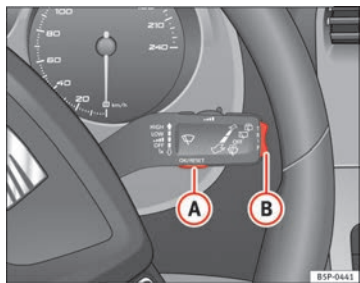
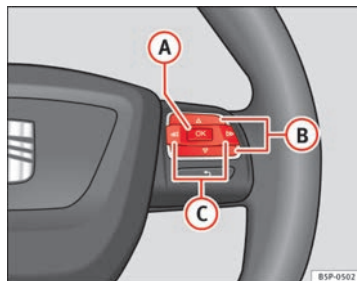

Fig. 45 Windscreen wiper lever: button A to confirm the menu selection and rocker switch B to change the menu
Fig. 46 Steering wheel controls: button A to confirm the menu selection and switch B to change the menu
- To access the “Configuration” menu, press button **C** ⇒ fig. 46 until the menu is displayed. Now you are in this menu.
- To change from one memory to another, briefly press button **A** ⇒ fig. 45 ⇒ page 68 on the windscreen wiper lever or the **OK** button on the multifunction lever ⇒ fig. 46 ⇒ page 68 while the ignition is switched on. ▶
The following data can be viewed on the multifunction display using the rocker switch **(B)** ⇒ fig. 45 ⇒ page 68 on the windscreen wiper lever or by pressing button **(Δ)** or **(▽)** ⇒ fig. 46 on the multifunction steering wheel*.